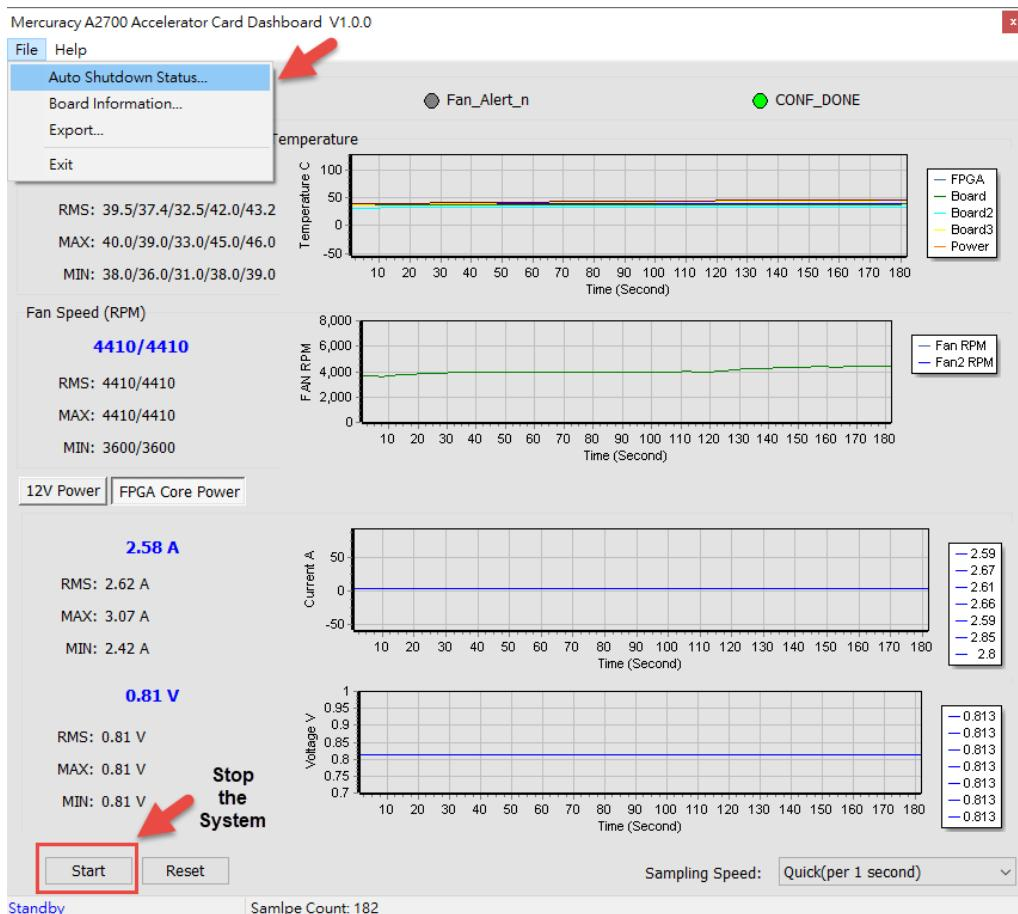

Figure 4-16 File Menu Options
- **File Manu:** The user can click “File” menu at the top left of the GUI (See Figure 4-16) and some options such as board information and status export will appear. Note that to active these functions, you will need to **stop** obtaining the board status (i.e. Don’t Press “Start” button or Press “Stop” button) in the GUI. Detailed introductions of these functions are described in below.